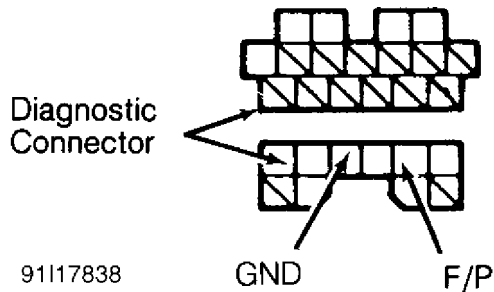

Fig. 11: Data Link Connector Terminal ID (Except B2200, B2600i, MPV & Navajo)
2) On all others, connect jumper wire between GND and F/P terminals of data link connector. See Fig. 11. On all models, turn ignition on for about 10 seconds and then off. Disconnect jumper wire.